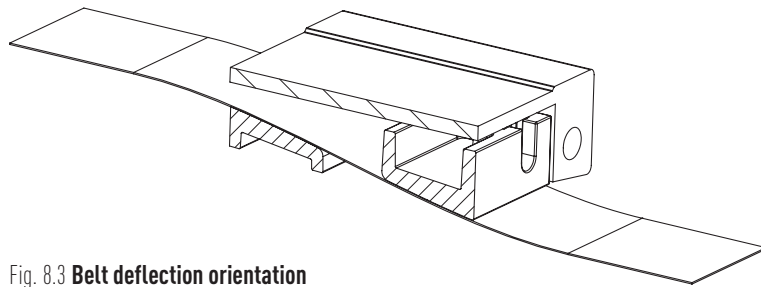

Fig. 8.3 **Belt deflection orientation**
- ▶ Thread the belt deflection onto the cover strip at both ends of the carriage. Make sure that the belt deflection is correctly oriented as shown in Fig. 8.3.